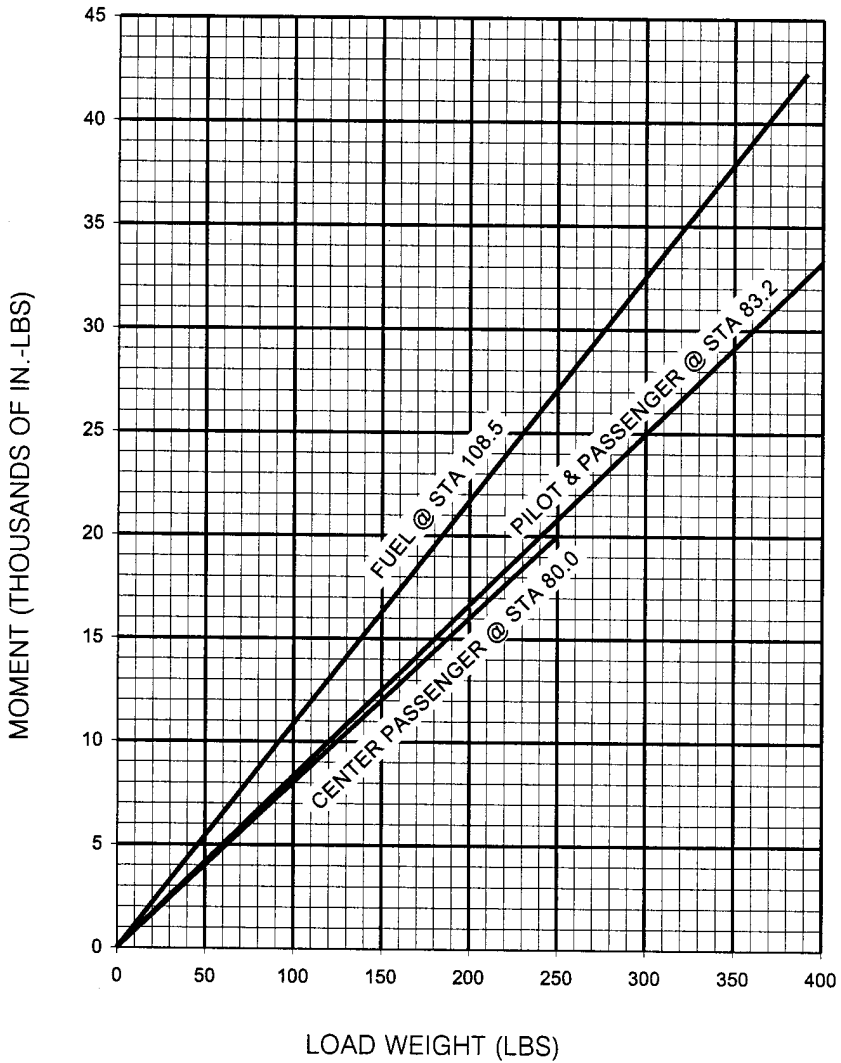

Figure 6-6. Weight and Moment Chart - Longitudinal
- b. Determine weights and longitudinal moments of useful load items (CSP-C1-1G, Figure 6-6).